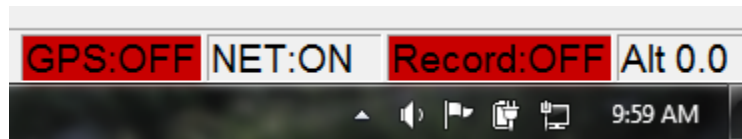

Figure 3-7: NET: ON
3. The NET status in DISCOVER should change from NET OFF to NET ON, as shown in **FIGURE 3-7**.